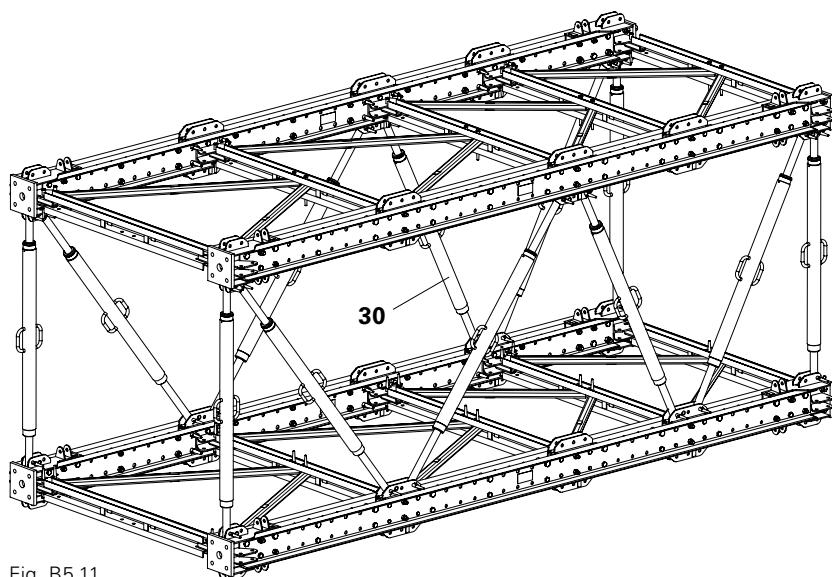

Fig. B5.11
1. Install the required number of Heavy-Duty Spindles SLS (30) using Fitting Pins Ø 21 mm (9). (Fig. B5.11)